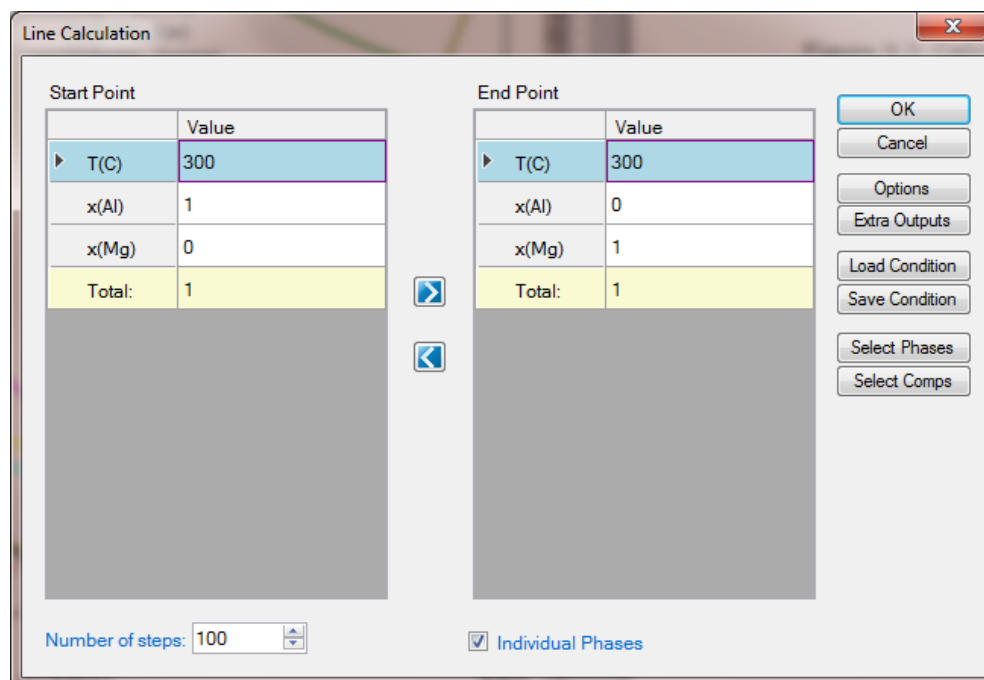

Figure 1.9.3: Calculation of the Gibbs energy for individual phases by Line calculation
- Set Calculation Condition as shown in Figure 1.9.3, check the “Individual Phases”;